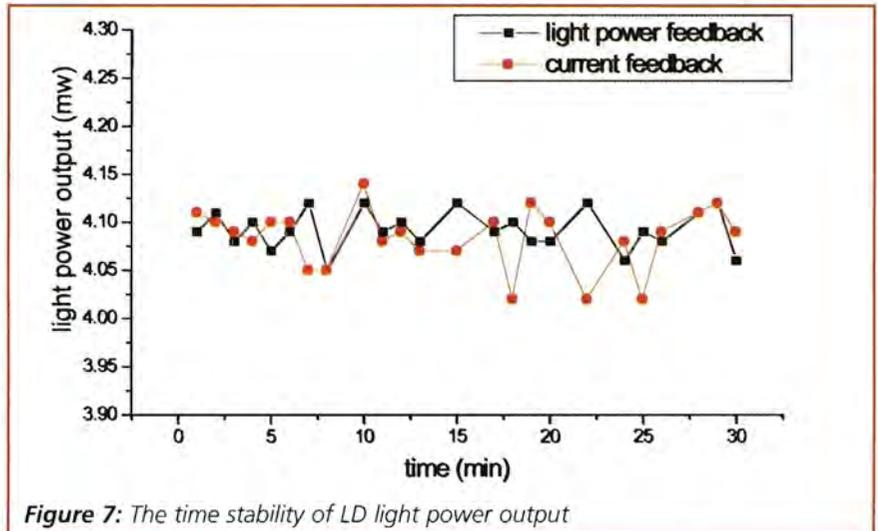

Figure 7: The time stability of LD light power output
**Figure 7** is the time stability of LD light power output. The light power output stability degree is 1.7% (from 4.05mW to 4.12mW) with light power feedback pattern, and 2.9% (from 4.02mW to 4.14mW) with current feedback pattern.